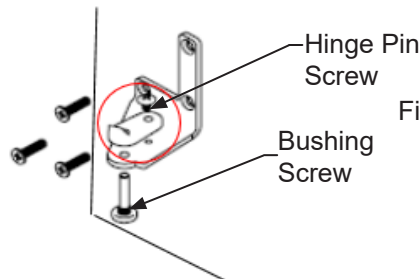

Figure 6b - Upper Left Hinge Orientation (After Reversal)
4. On the Bottom Hinge, reattach the Bushing Screw and Hinge Pin Screw to the opposite side (Fig. 6b)